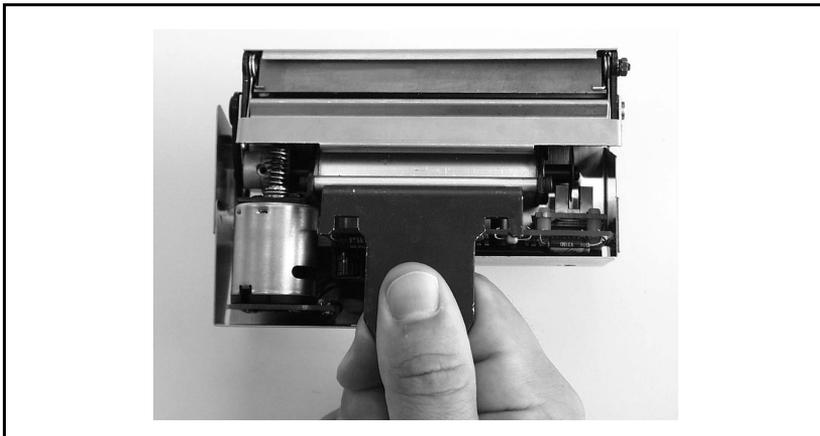

Figure 22. Cutter Module Reassembly — Rear View
4. Lower the upper cutter blade guard back to its normal position. When reassembled, the back of the cutter module should look like the one shown in Figure 22.